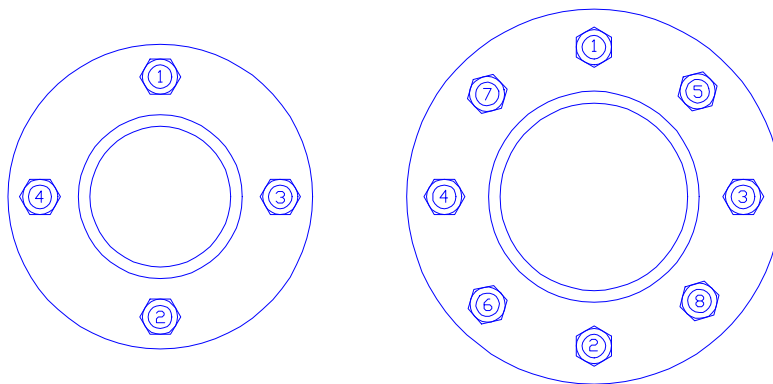

Figure 1
- e) Using a torque wrench, follow a standard tightening procedure as shown in Figure 1. The proper torque value will be determined by your gasket material.